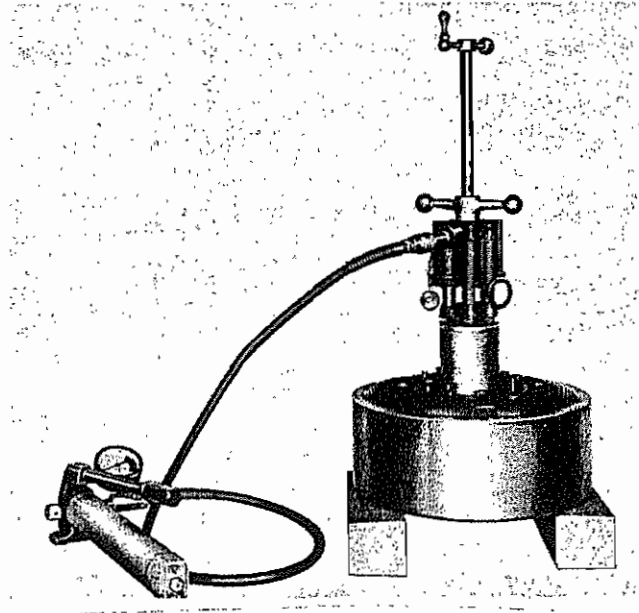

Fig. 15 -- Compressing Pressure Springs To Install Throwout Plate Capscrews (T-22039)
5. Position brake drum over throwout plate with final drive side of drum down; refer to Fig. 15 and support drum with blocks to keep drum approximately level with throwout plate.
10. Connect pump to ram and install pin in forcing screw as shown in Fig. 15. Operate pump to compress springs.